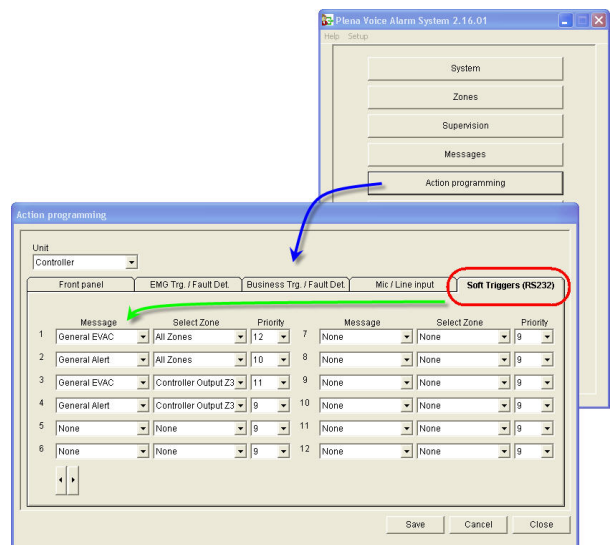

Figure 12 – soft trigger (virtual trigger) setup
- 11) Select the "Soft trigger (RS-232)" tap and select for each trigger with message should be played. You can configure up to 120 triggers Set the priority of the trigger and choose which zones are affected. (figure 12)